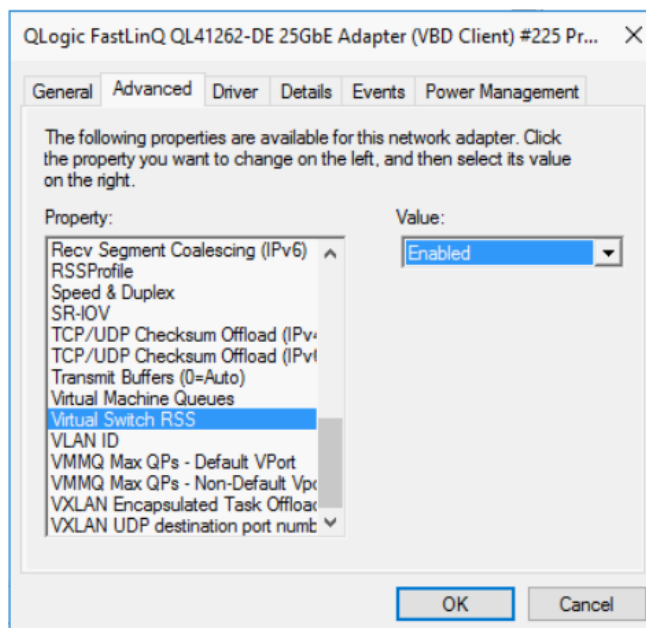

Figure 15-13. Advanced Properties: Enabling Virtual Switch RSS
2. On the adapter properties' Advanced page (Figure 15-13) under **Property**, select **Virtual Switch RSS**, and then set the value to **Enabled**.